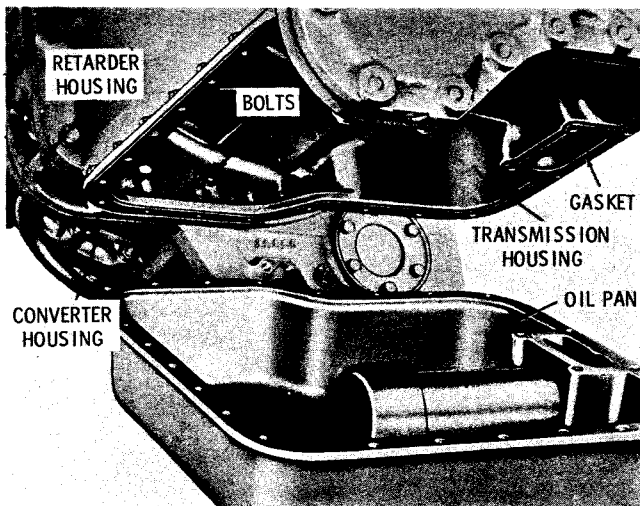

Fig. 5-8. Removing transmission oil pan
(12) Remove 24 short and four long bolts and 28 lockwashers from the transmission oil pan. Remove the pan and gasket (fig. 5-8). Remove the two bolts and lockwashers that secure the converter housing and hydraulic retarder housing to the transmission housing. Refer to (B, foldout 14) for exploded view.